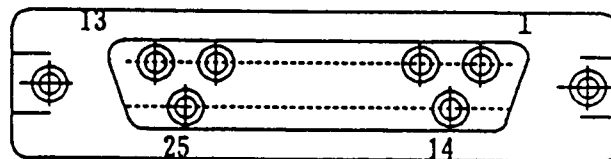

Fig. 7-1 Pin arrangement
- ① Fig. 7-1 illustrates the pin arrangement of the RS-232C connector, and Table 7-1 lists the pin functions.